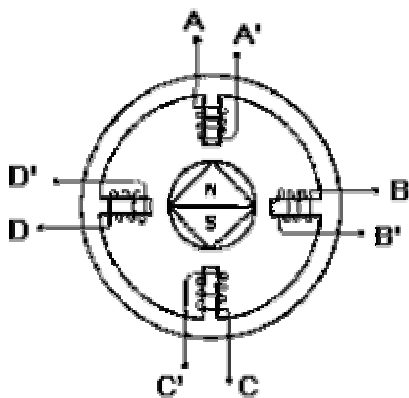

Figure 6: Permanent Magnet Motor
Permanent Magnet (PM) - PM motors differ from VR's by having permanent magnet rotors with no teeth, and are magnetized perpendicular to the axis. In energizing the four phases in sequence, the rotor rotates as it is attracted to the magnetic poles. The motor shown in Figure 6 will take 90 degree steps as the windings are energized in sequence ABCD. PM's generally have step angles of 45 or 90 degrees and step at relatively low rates, but they exhibit high torque and good damping characteristics.